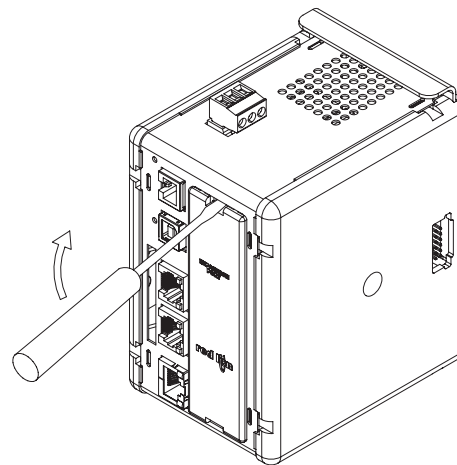

Figure 2
2. Insert a flat-bladed screwdriver into the slot at the top of the expansion port cover. Gently apply pressure on the screwdriver in an upward direction until the expansion port cover disengages from the unit as shown in Figure 2.